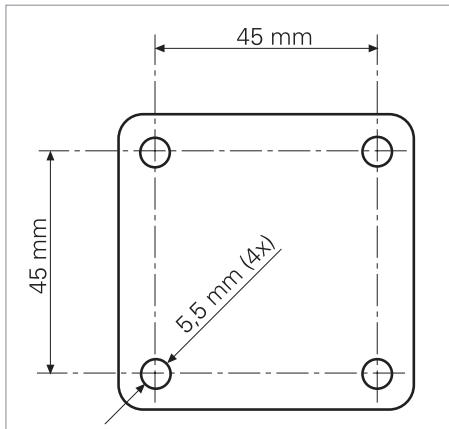

Fig. 2: Hole pattern.
**NOTE:** Observe the hole pattern, see Fig. 2.